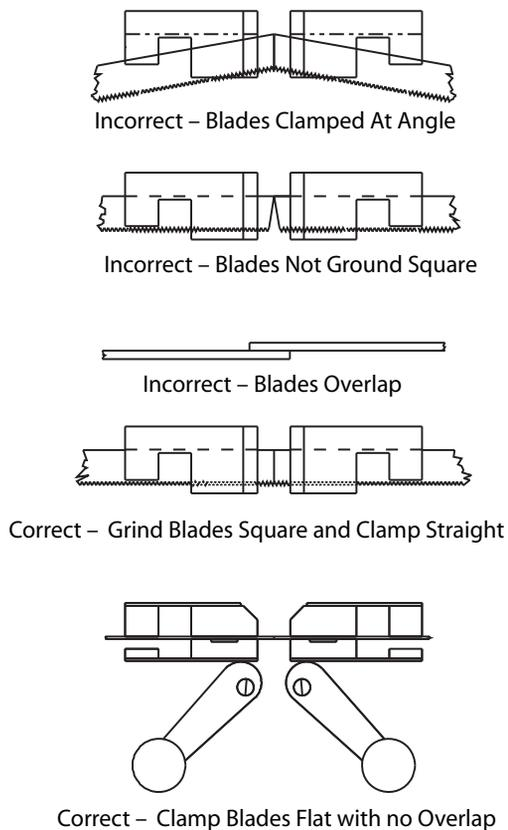

Figure 6 - Blade mounting and clamping.
Refer to Figure 6.
4. Firmly set back of blade against back alignment surface of welder jaw and clamp blade tight with the jaw clamping handle (See Figure 6).
IMPORTANT: The blade ends should butt against each other over the full width of the blade and should not overlap (See Figure 6).